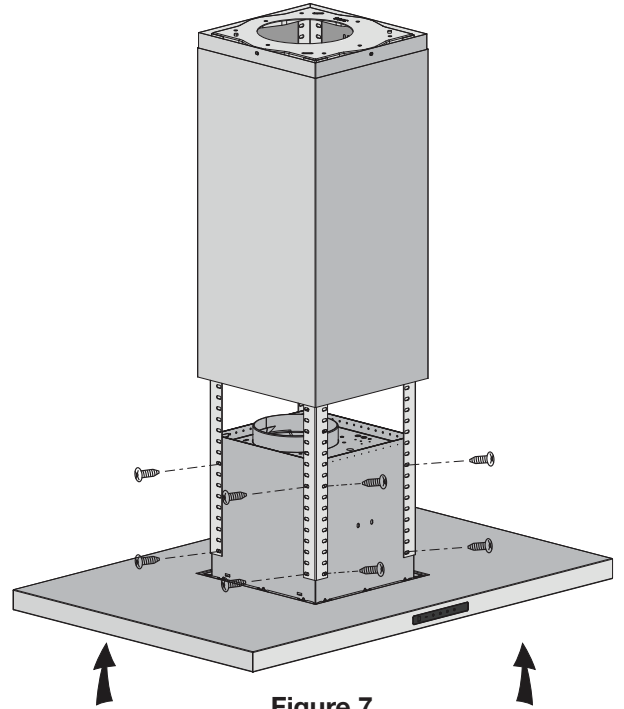

Figure 7
- Use 16 pieces M4 × 10mm mounting screws to attach the hood into angle irons (see Figure 7).